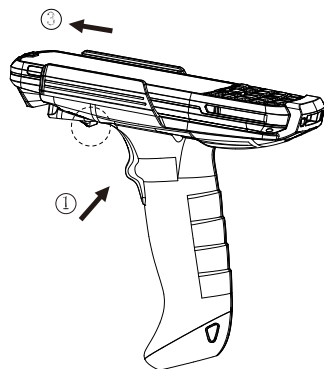

fig.2
Disassembly: disassemble the PDA according to the steps ①② in Fig 2.